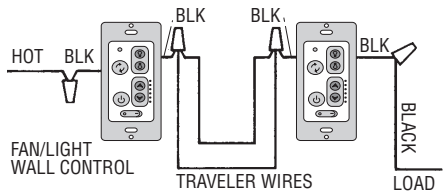

Figure 9
**NOTE:** Retrofit 3-way installations are likely to include two traveler wires between the two wall boxes. In new construction, only one traveler wire is required (See Figure 9).